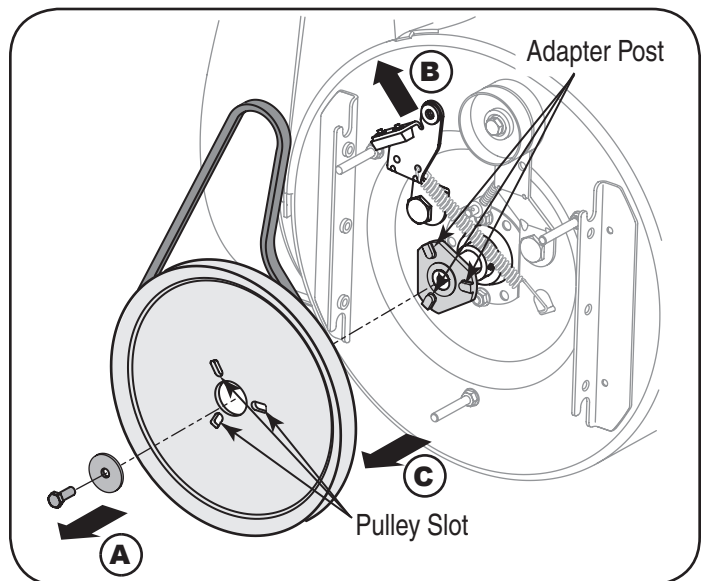

Figure 28
6. Block the impeller with a piece of wood to prevent it from spinning and use a 1/2" wrench to remove the hex screw and flat washer from the center of the pulley on the auger housing. See Figure 28.
7. Lift the brake bracket assembly out of the pulley groove and slide the pulley assembly off the posts of the auger pulley adapter to remove the old belt. Refer to Figure 28.
9. Turn the pulley as necessary to align its three slots approximately with the posts of the pulley adapter, then move the brake bracket assembly away from the input shaft. While aligning the pulley slots and adapter posts, push the auger pulley fully onto the adapter. Refer to Figure 28.
NOTE: If the pulley adapter was removed with the pulley, align the splines of the pulley adapter and auger input shaft, and push the pulley and adapter onto the input shaft. Refer to Figure 28.